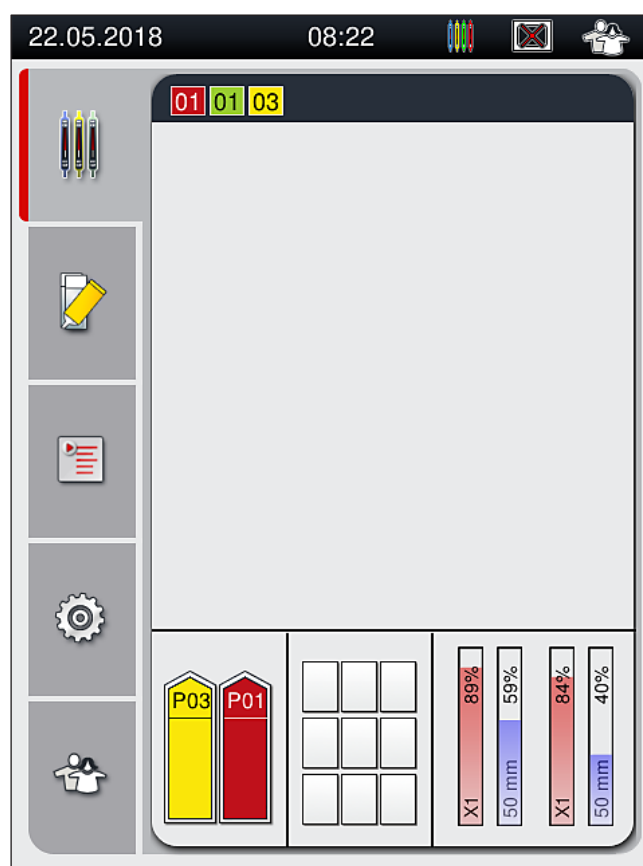

Fig. 73
7. The detected handle color is shown in the process status display (→ Fig. 73).